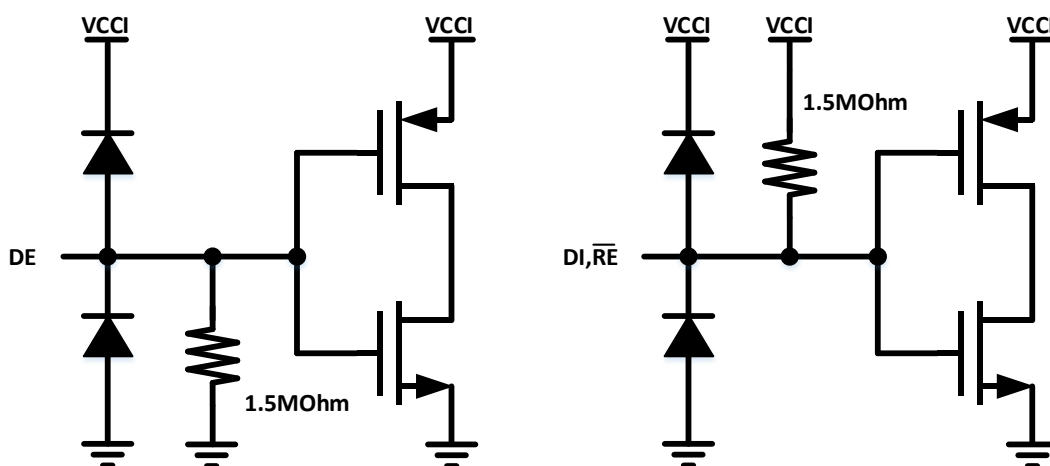

Figure 9-1. Input equivalent circuit
The CA-IS309x devices include three logic inputs on the logic side: receiver enable, driver enable and driver digital input. The driver enable control DE pin has an internal weak pull-down to GNDA, while the digital input DI and receiver enable pins have an internal pull-up to V_{CC}/V_{CCL} , see Figure 9-1 the input equivalent circuit.
The transmitter converts a single-ended input signal (DI) from the local controller to differential outputs on the bus lines A and B. The truth table for the transmitter is provided in Table 9-2, the driver enable control DE pin has an internal weak pull-down to GNDA, see Figure 9-1 the input equivalent circuit; while the digital input DI pin has an internal pull-up to V_{CC} for CA-IS3092W/CA-IS3098W or V_{CCL} for CA-IS3092VW/CA-IS3098VW. The driver outputs and receiver inputs on the bus side are protected from $\pm 20kV$ electrostatic discharge (ESD) to GNDB, as specified by the Human Body Model (HBM). The driver outputs also feature short-circuit protection and thermal shutdown.